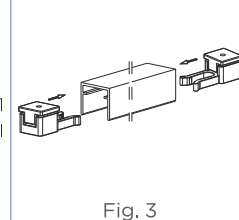

Fig. 3
2. Slide the catch into the top track from either sides as shown in Fig.3.